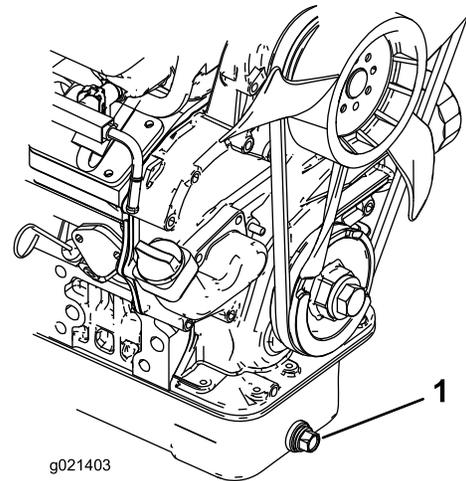

Figure 45
1. Remove the drain plug (Figure 45) and let oil flow into a drain pan. When the oil stops flowing, install the drain plug.